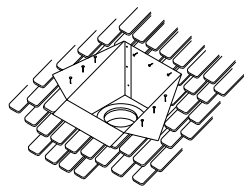

Figure 20
3. Install Support Box: Slip the Square Support Box, Reduced Clearance Support Box, or the CAS Ceiling Support into the framed opening so the square portion projects at least 2 inches below the finished ceiling and rafters (bottom of round portion is 5" below), and extends above the ceiling to framing or decking materials to which it can be nailed. Level the Support Box, and slit the corners to the roofline where they extend beyond it. Bend the flaps (created by the slitting) flush with the roof, and nail the Support Box to the roof or framing with at least three (3) 8-penny nails, or (3) 1-1/2", #8 screws, per side (**Fig 20**). Be sure to keep the Support Box level. Screw the trim sections into the ceiling (**Fig 6**).